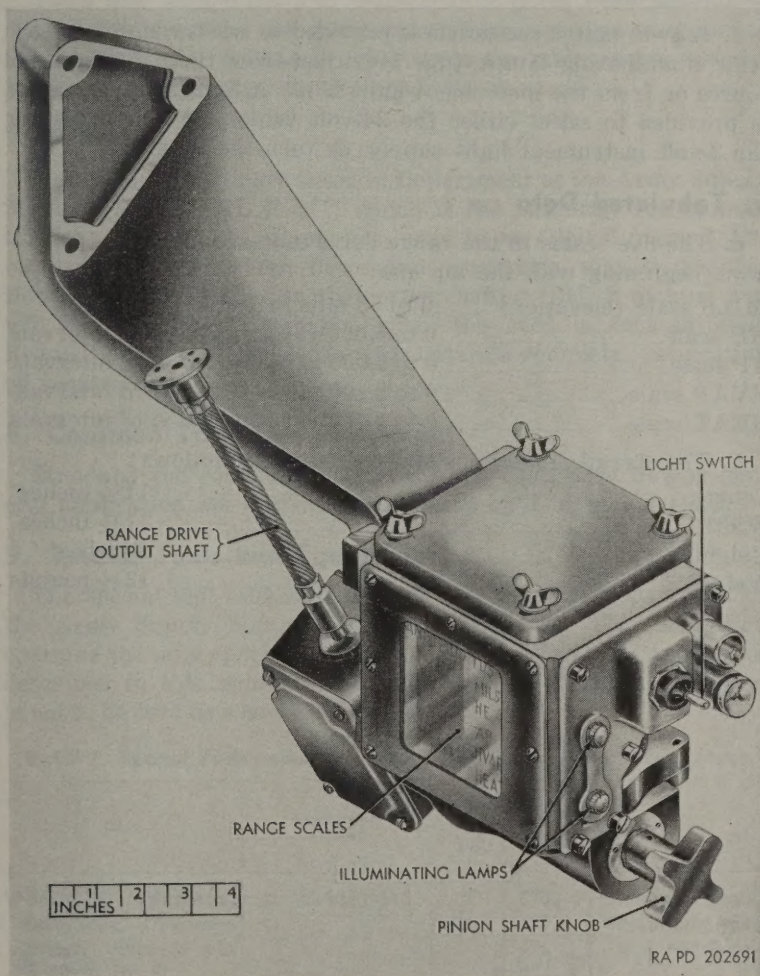

Figure 1. Range Drive T25.
a. The range drive T25 (fig. 1) serves as a member of the fire control system of the 90-mm gun tank T48 to provide means for adjusting the elevation of the weapon for range and type of ammunition. The range drive is mounted to the turret roof and consists of a manually operated turning mechanism, a series of range scales, a pair of lamps for illuminating the range scales, an output shaft, and a mounting bracket.
b. Five range scales (fig. 1) are mounted inside the range unit. The bottom four scales are graduated in yards for four different types of ammunition. The top scale is graduated in mils and indicates the elevation required for the range indicated on either of the four bottom scales. The scales are viewed through a glass window on the left side of the range unit and are read with reference to an index etched on the range scale index.
c. The pinion shaft knob on the range unit turns the scales and also turns the range drive output shaft (fig. 1), which transmits the superelevation required for the particular range and ammunition being used.
d. A twin power receptacle is provided to receive power for the scale illuminating lamps (fig. 1) either from the vehicle power source or from the instrument light M30. A light switch (fig. 1) is provided to select either the 24-volt vehicle power supply, or the 3-volt instrument light supply, or turn the illumination off.